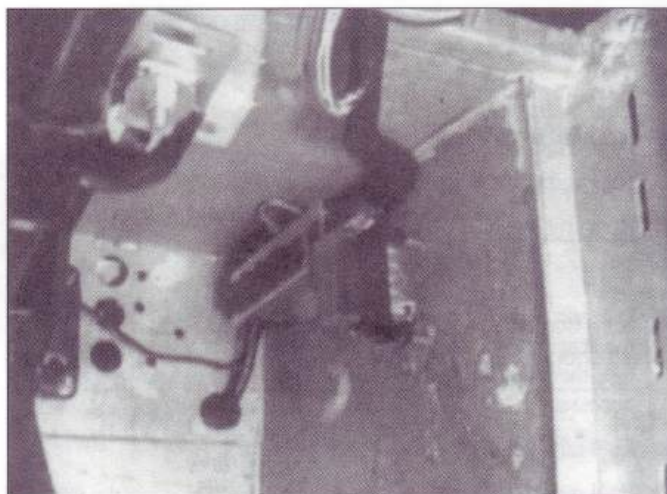

Fig.6b. Relays and fuse box fitted.
2. Affix the 4 relays to a convenient point on the offside bulkhead, then attach the fuse box next to it as shown in fig.6b.